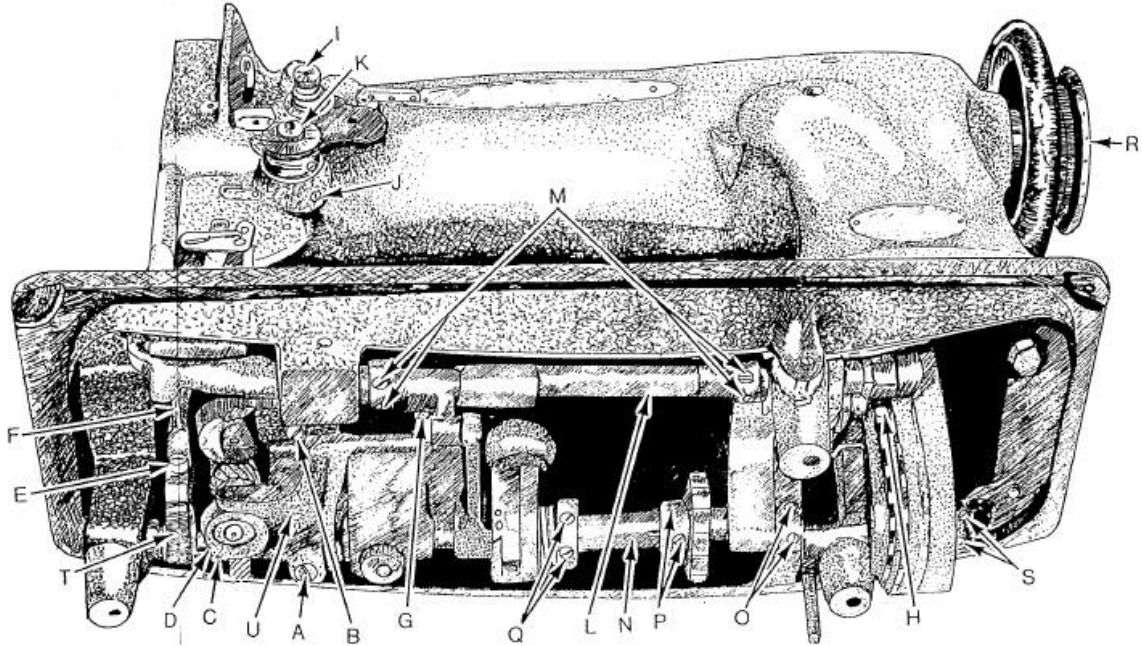
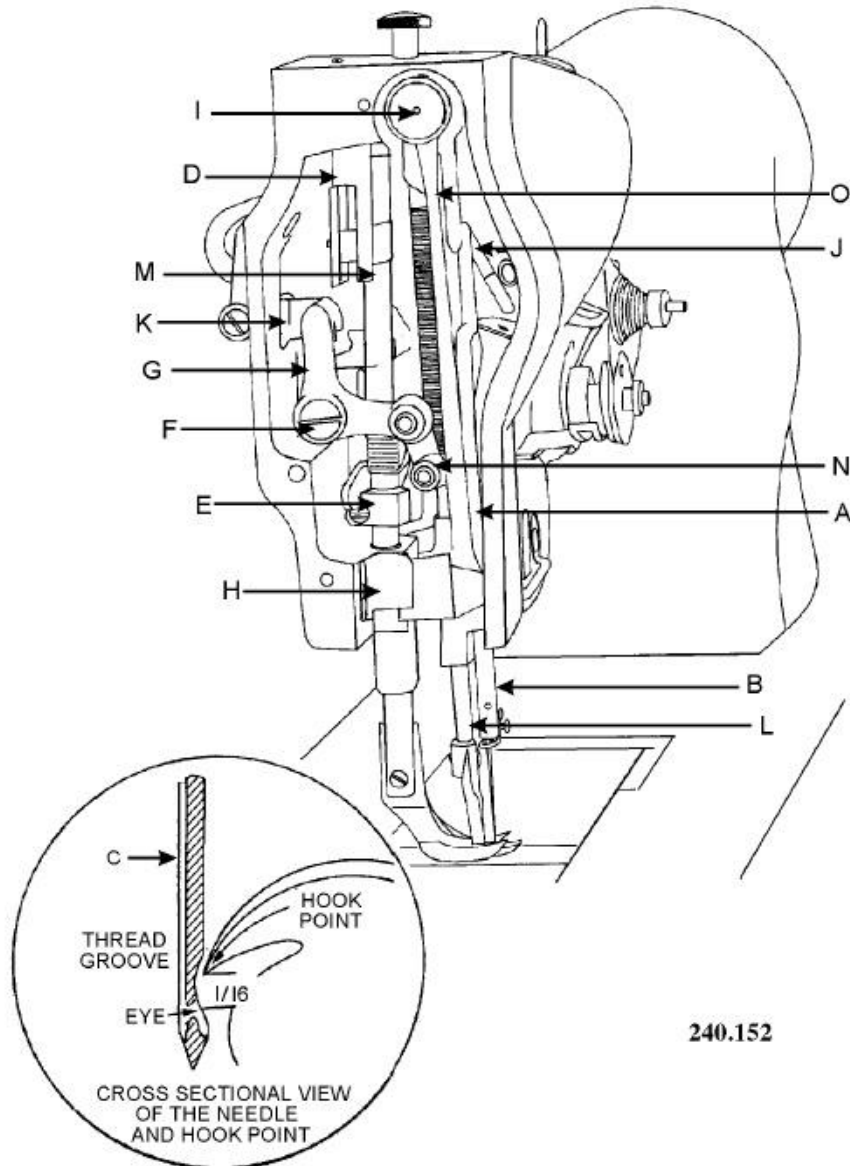

Figure 6: Feed and hook drive (Consew 225)
Figure 7: Face view (Consew 225)
- b. Loosen the feed fork screw (figure 6 [E], push the feed bar (figure 6 [F]) up or down as necessary to obtain the proper feed dog height, and tighten the screw. This completes this timing point.
- (1) Loosen the feed-driving crank pinch screw (figure 6 [G]), and push the feed dog away from the point where it strikes; then retighten the feed-driving crank pinch screw.
- (2) Turn the balance wheel toward the operator until the needle is at its lowest point and observe the relationship of the needle and the hole in the throat plate. If the needle is near the front of the hole but not touching it, proceed to step 4. If the needle needs to be centered, proceed to step 3.
- (3) If the needle and throat hole are not properly aligned, loosen the needle-bar rock frame rockshaft connection crank pinch screw (figure 7 [A], table 4-2, foldout at the end of this chapter) and align the needle-bar in the hole of the throat plate; then retighten the screw.
- (4) Turn the balance wheel toward the operator and observe the operation of the alternating pressers. If the front foot does not strike the back foot, then the feeding action is centered.
- (1) Loosen the pinch screw (figure 7 [A]) and move the needle-bar (figure 7 [B]) to obtain the proper height, as shown in figure 7 (C); then retighten the needle-bar clamp pinch screw.
- (2) Tilt the sewing machine back; loosen the hook saddle pinch screw (figure 6 [A]), the hook saddle adjusting screw (figure 6 [B]), and the hook drive gear setscrews and spline screws (figure 6 [C] and [D]).
- (3) Move the hook saddle (figure 6 [U]) to the right and the hook drive gear to the left until they are disengaged.
- (4) Turn the balance wheel toward the operator until the needle is raised three-sixteenths of an inch from its lowest point.
- (5) With the point of the hook in the 7 o'clock position, engage the hook pinion gear and the hook drive gear to align the hook point with the needle. As the hook is engaged, it will rotate clockwise, advancing toward the needle until the hook point is centered on the needle. The hook point should be as near as possible to the needle without touching it.